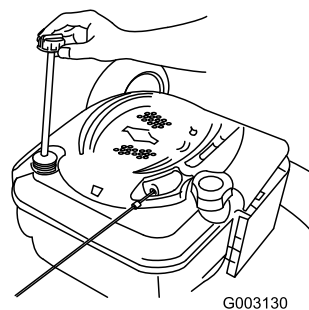

Figure 47
2. Retirez la jauge (Figure 47).